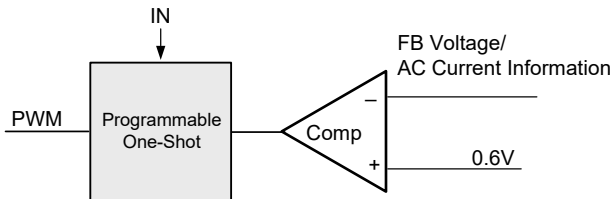

Figure 3. Simplified Control Schematic of AOZ2262NQi-11
The simplified control schematic is shown in Figure. 3. The high-side switch on-time is determined solely by a one-shot whose pulse width can be programmed by one external resistor and is inversely proportional to input voltage (IN). The one-shot is triggered when the internal 0.6V is higher than the combined information of FB voltage and the AC current information of inductor, which is processed and obtained through the sensed lower-side MOSFET current once it turns-on. The added AC current information can help the stability of constant-on time control even with pure ceramic output capacitors, which have very low ESR. The AC current information has no DC offset, which does not cause offset with output load change, which is fundamentally different from other V^2 constant-on time control schemes.